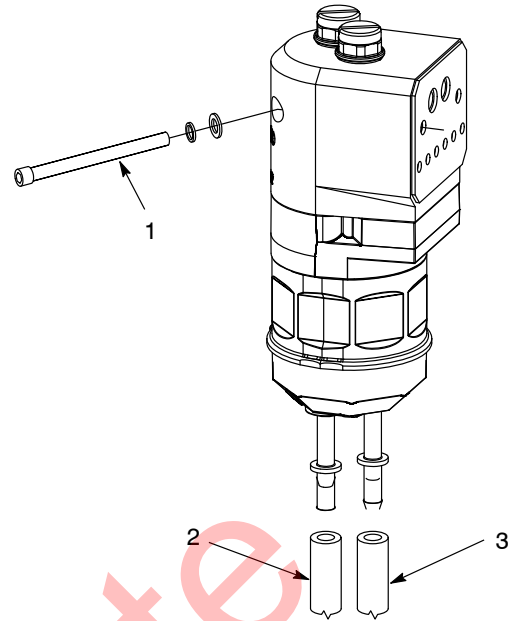
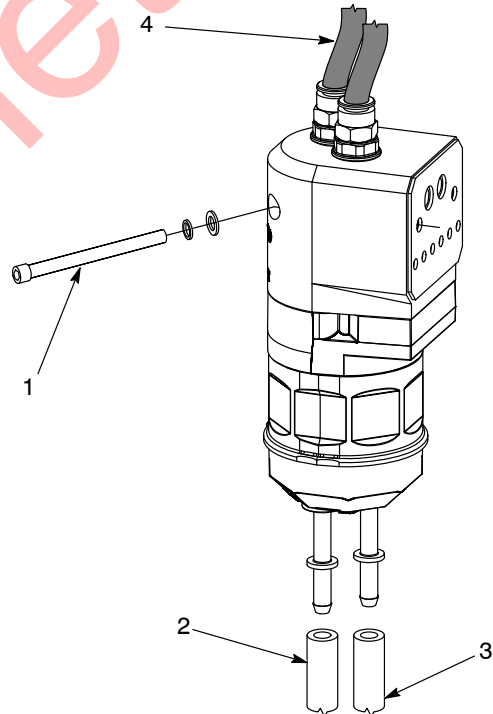

Figure 9 Standard Pump Mounting and Connections
Figure 10 Retrofit Pump Mounting and Connections
1. See Figure 9 for standard pump and Figure 10 for retrofit pump. Use the mounting hardware to (1) secure the pump to the pump panel.
2. Connect the inlet (3) and outlet powder tubing (2) from the bottom of the pump.
3. See Figure 10. For retrofit pumps, connect the purge air lines (4) from the top of the retrofit pump where applicable.